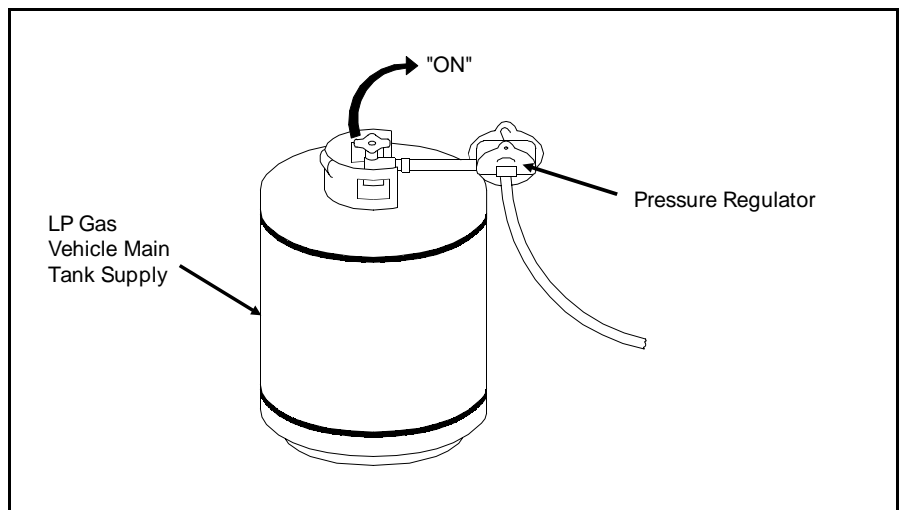

Figure 4.30 Main Gas Valve Check
- 11. Make sure the main line LP gas supply is "on" as shown in Figure 4.30.